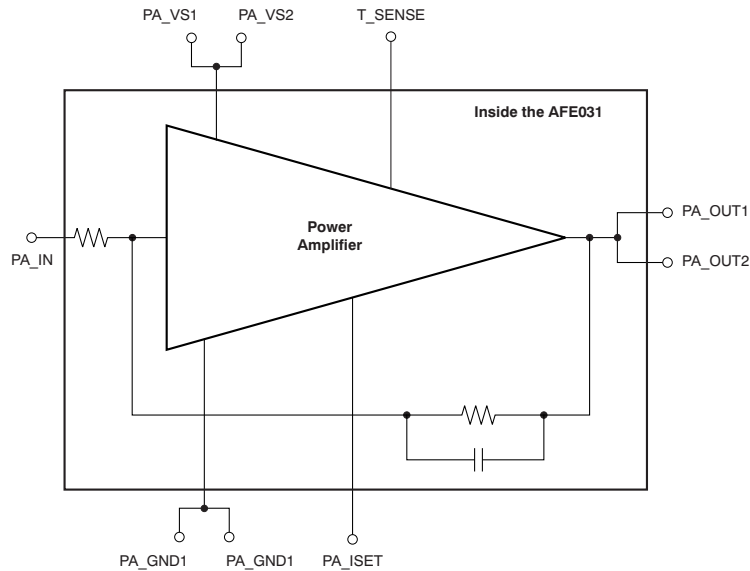

Figure 25. PA Block Equivalent Circuit
The Power Amplifier (PA) block consists of a high slew rate, high-voltage, and high-current operational amplifier. The PA is configured with an inverting gain of 6.5 V/V, has a low-pass filter response, and maintains excellent linearity and low distortion. The PA is specified to operate from 7 V to 24 V and can deliver up to ± 1.5 A of continuous output current over the specified junction temperature range of -40°C to $+125^{\circ}\text{C}$. Figure 25 illustrates the PA block.